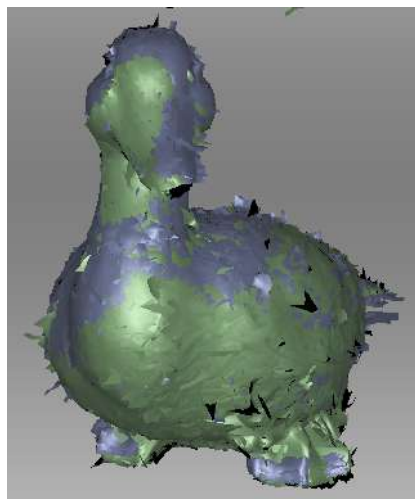

Figure 80: “Drag” alignment result
3. To confirm the alignment, release the mouse button(s) and the **Shift** key, then click *Apply*. Note carefully that any scans you are registering won't automatically move to the registered set  (see Figure 80). You can do so manually as the *Changing Object Status* describes.